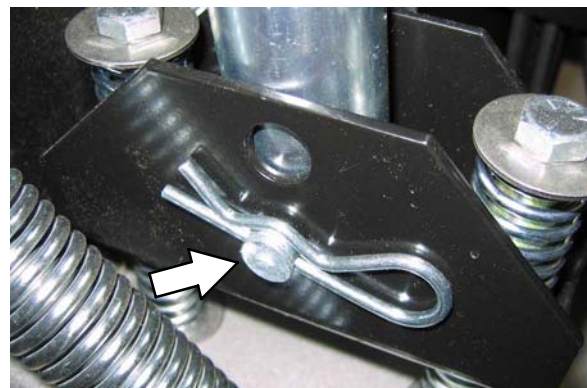

FIG. 2
2. Remove the lower clevis pin from the actuator (Fig. 2).